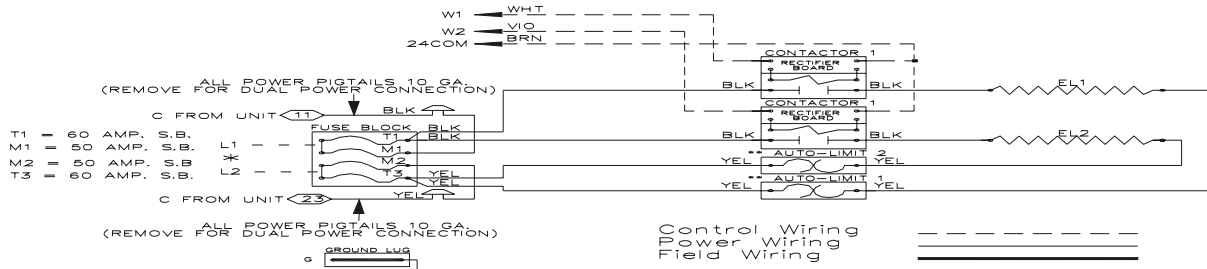
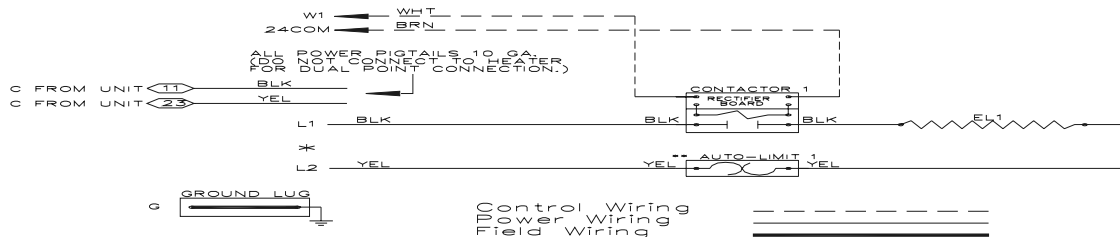

FIG. 2 — Wiring schematic for fused heater.
FIG. 3 — Wiring schematic for non-fused heater.
11. Remove power line connection from heater to unit contactor and compressor. Refer to wire diagram for location of wires (see fig. 2 and fig. 3).
6. Connect low voltage wires as shown in heater schematic diagram (See pg. 4). These connections must be made in the 24V barrier section inside unit panel (See Fig. 2).